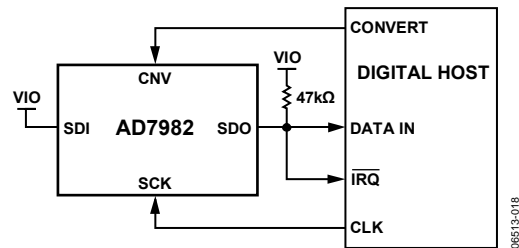
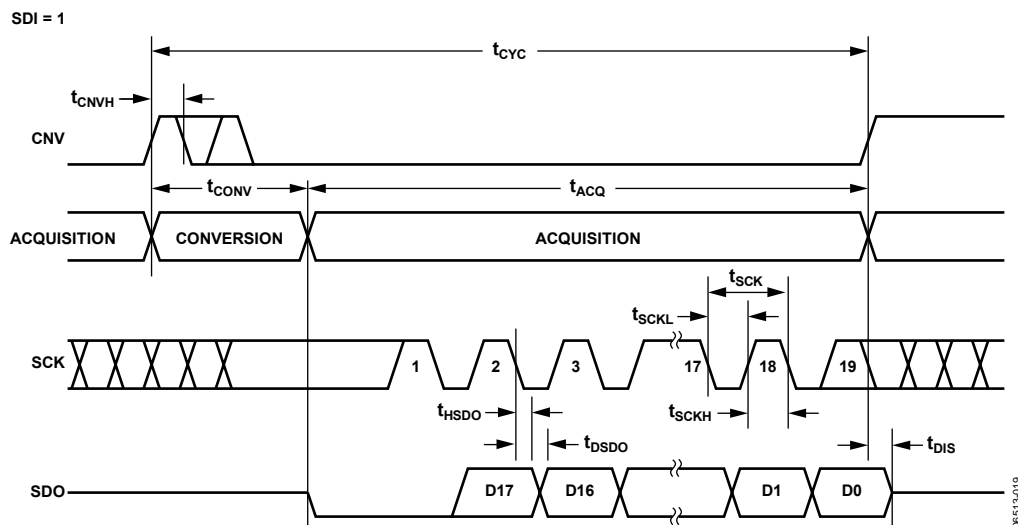
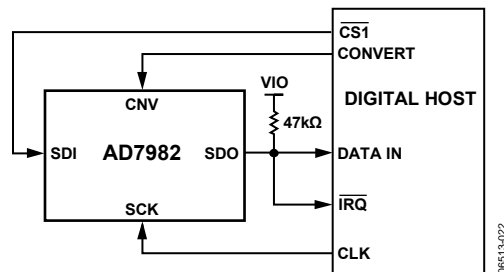
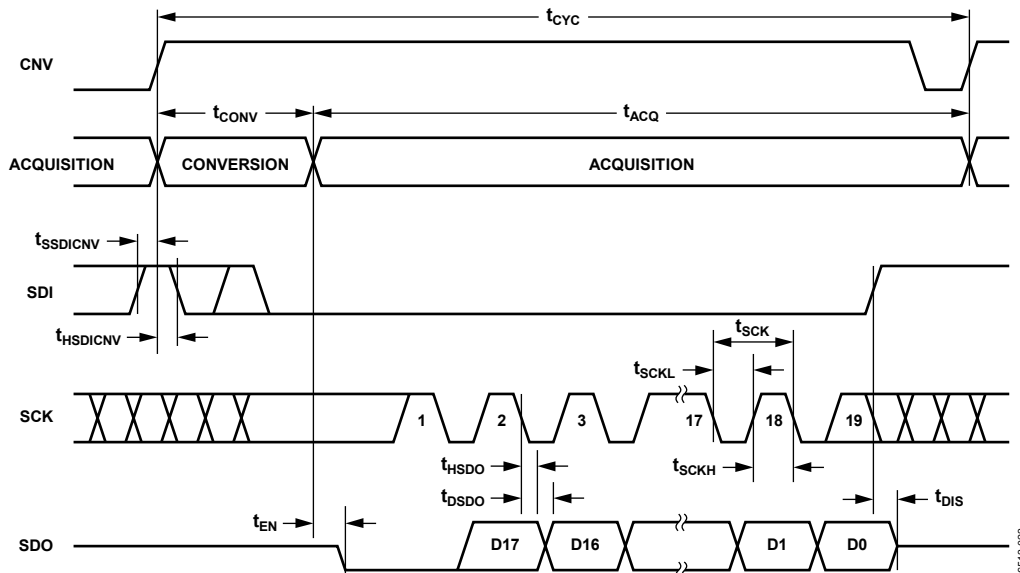

Figure 31. $\overline{\text{CS}}$ Mode, 3-Wire with Busy Indicator Connection Diagram (SDI High)
Figure 32. $\overline{\text{CS}}$ Mode, 3-Wire with Busy Indicator Serial Interface Timing (SDI High)
Figure 35. $\overline{\text{CS}}$ Mode, 4-Wire with Busy Indicator Connection Diagram
Figure 36. $\overline{\text{CS}}$ Mode, 4-Wire with Busy Indicator Serial Interface Timing
- In the \overline{CS} mode if CNV or SDI is low when the ADC conversion ends (see Figure 32 and Figure 36).
The connection diagram is shown in Figure 31, and the corresponding timing is given in Figure 32.
The connection diagram is shown in Figure 35, and the corresponding timing is given in Figure 36.